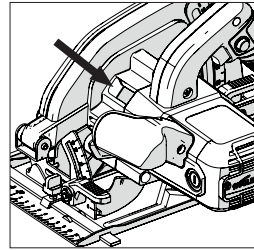

Fig. 3
- Locate the machines arbor lock button (which is similarly positioned on all machines). Lock the machines arbor by operating the arbor lock button. **(Fig. 3)**.